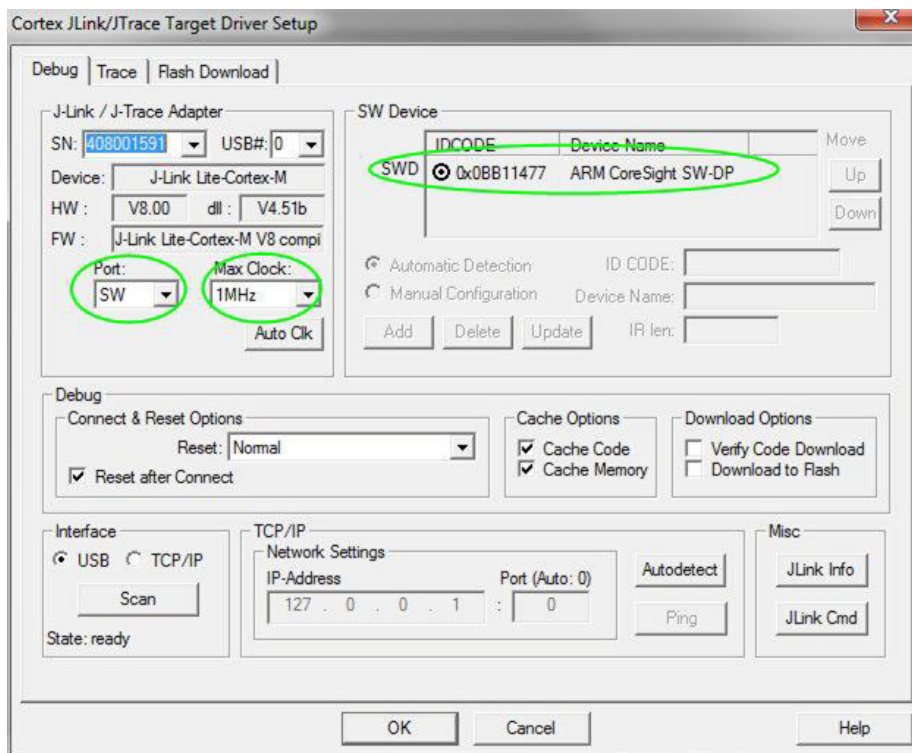

Figure 43 Debug settings
- Click the **Debug** tab shown in the figure. Set Port to **SW** and Max Clock to **1MHz**, as shown in Figure 43. Make sure that SN and IDCODE are populated properly and click **OK**.